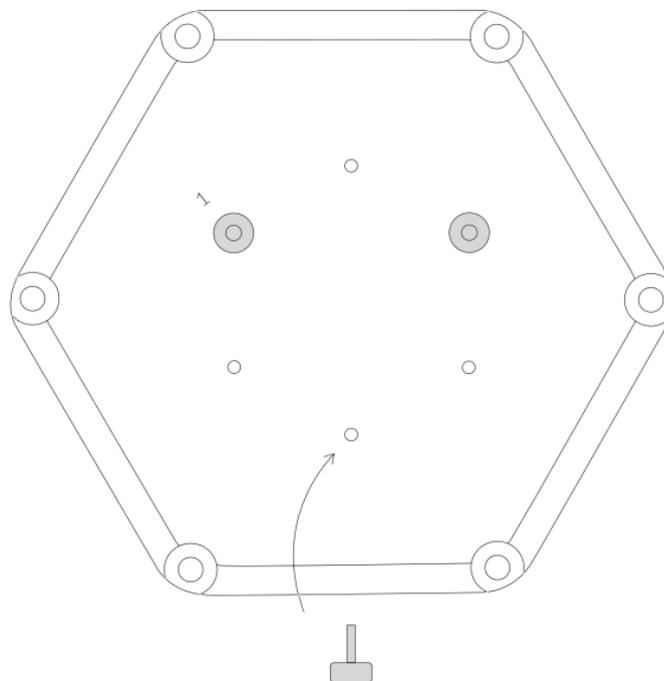

Figure 18 Screw the mounting nuts into the device for a wall installation.
- A. Screw the mounting nuts into the enclosure (see Figure 18).